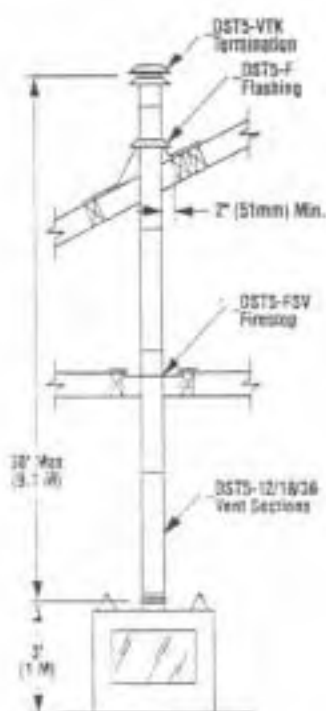
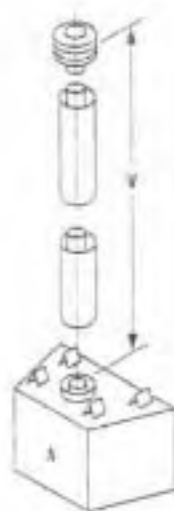

Figure 14
Figure 15 (Straight)
The Figures 14 through 16 and the Vertical Vent Table on page 8 illustrate the various vertical venting configurations that are possible for use with these top vent appliances. The maximum vertical height for the _DVT8 system is 30' (7.6 m) above the top of the appliance. Figures 15 and 16 along with Vertical Vent Table identify: (A) straight vertical system and (B) vertical system that employs two (2) 90° elbows. The Vertical Vent Table summarizes each system's minimum and maximum vertical and horizontal values that can be used to design and install the vent components in a variety of applications.